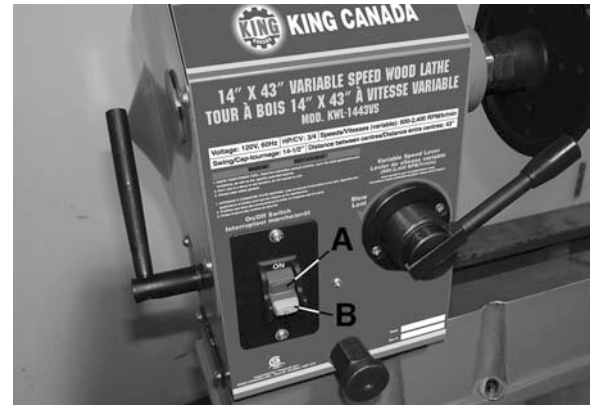

FIGURE 11
1. Your wood lathe is equipped with a safety toggle switch (A) Fig.11. To turn the machine on, push the switch up to the “On” position, to turn it off, push the switch down to the “Off” position. To prevent unauthorized use, this switch has a safety key (B) which, when removed, allows the switch to be locked in the “off” position. To lock the switch in the “off” position, place switch to “off” position and pull out the switch key.